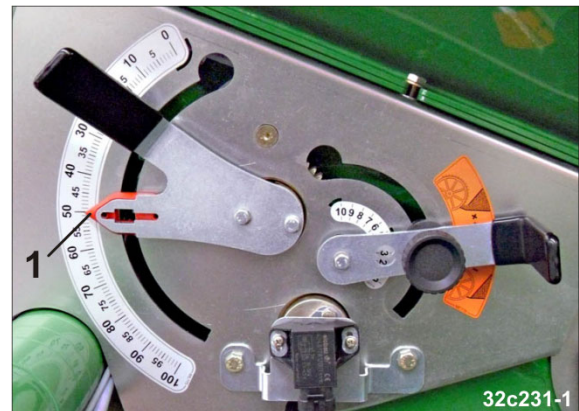

Fig. 66
- by the indicator (Fig. 66/1),